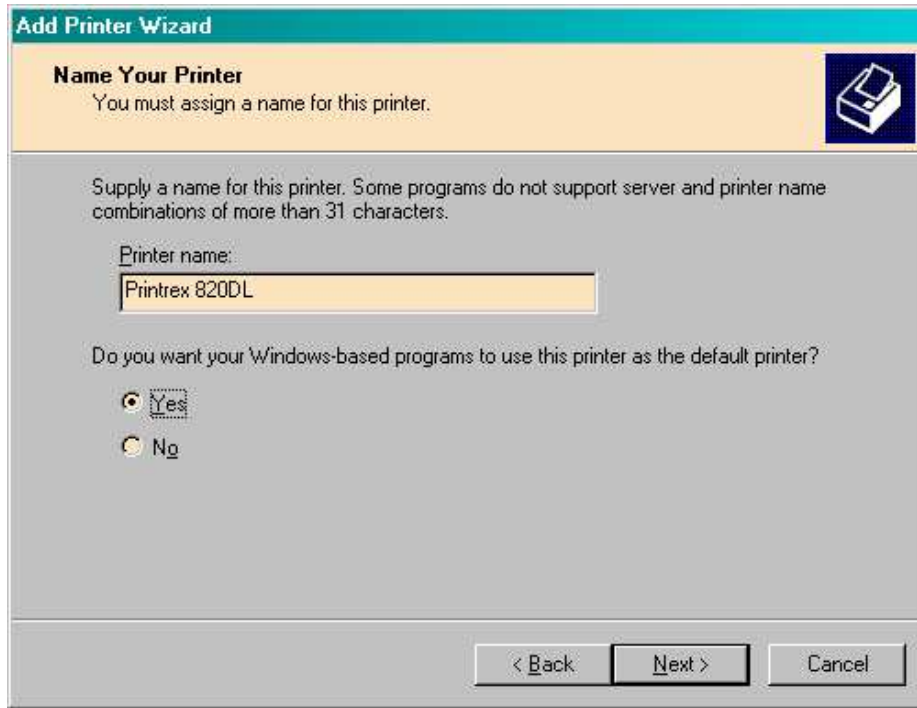

Figure 10
11. Then, for installations where the primary application does **not** allow selection of the printer, set the printer to be the system default: (Figure 10)